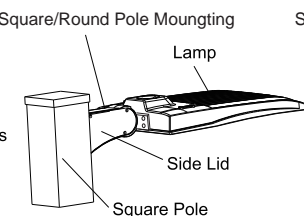

Figure 12
Step 2: Put the connected wire into the junction box, then cover the junction box. (Figure 12)